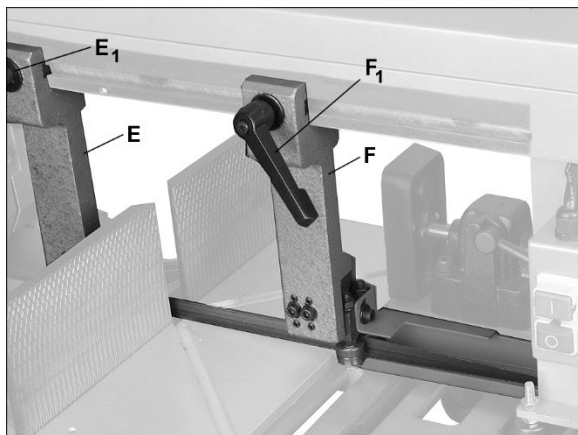

Figure 7-4: blade guide arm adjustment
2. The fixed blade guide arm (E, Figure 7-4) should be positioned as close to work area as possible, without interfering when bow is swiveled to an angle. Loosen screw (E1) and slide arm as needed. Tighten screw before operating. (Once the fixed guide arm is properly positioned, it can generally remain in that position for all operations.)
3. The movable blade guide arm (F) should be as close as possible without interference to material being cut. Loosen handle (F1) and slide arm as needed. Retighten handle before operating.